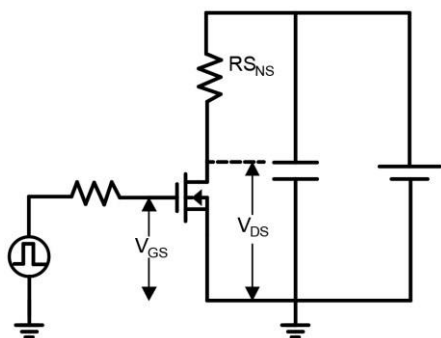

Figure 17. Dynamic $R_{DS(on)}$ Test Circuit
c. Dynamic on-resistance; see Figure 17 and 18 for test circuit and configurations